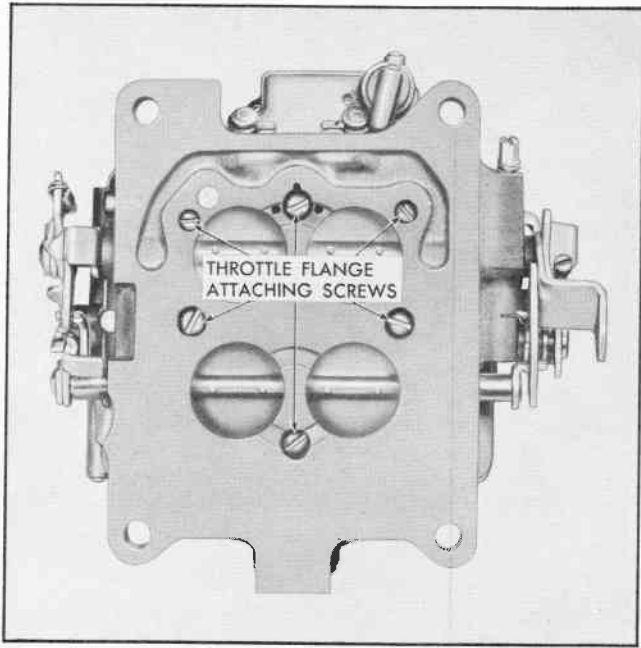

Fig. 14 Location of Throttle Flange Attaching Screws
11. Remove the 6 throttle flange to carburetor body attaching screws (Fig. 14).
2. Install throttle flange on carburetor body with 6 attaching screws and lock washers (Fig. 14).